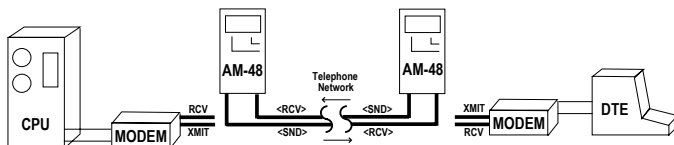

Figure 6-4. 4-Wire End-to-End Testing
Figure 6-4 shows a 4-wire end-to-end configuration, making measurements over a telephone network that normally connects two (2) modems. Each AM-48 both sends and receives signals, sending a signal over the <SND> pair of lines and measuring the signal received over the <RCV> pair of lines.